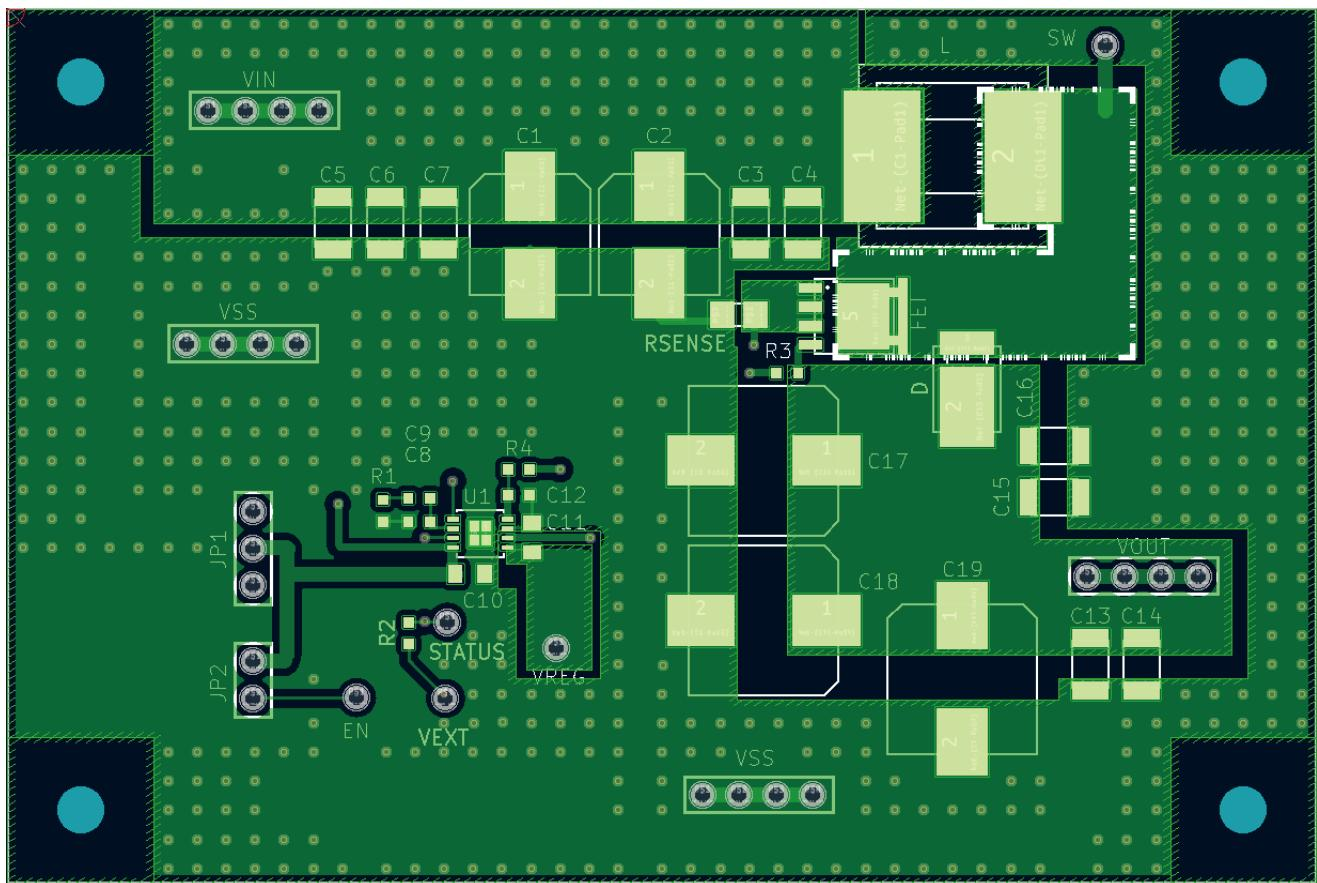

Figure 13 Reference Board Pattern
- The switching node (SW) wiring area (Dashed line area in **Figure 13 Reference Board Pattern**) should be as small as possible to reduce high-frequency radiation noise.